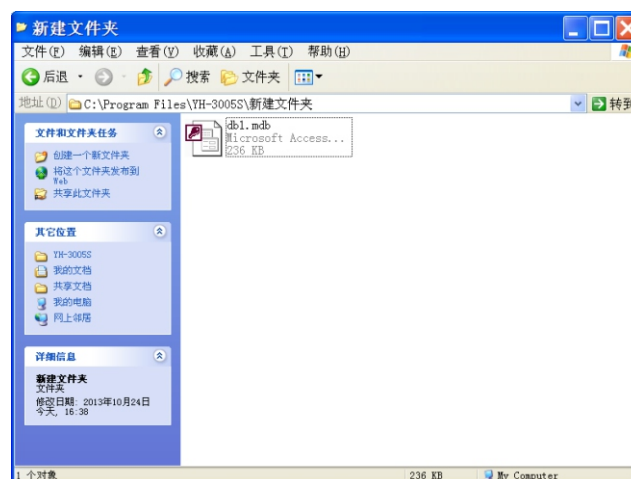

Figure 49
2. Create a new folder, copy the file to this new folder. As figure 49. DO not modify the file name, So next time when using this table, copy out directly cover as shown in figure 37 "db1. MDB files in the folder.